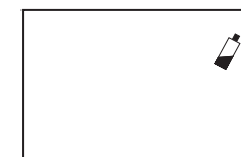

Figure 8
• Replace the battery when the low-battery warning begins to flash as shown in Figure 8.